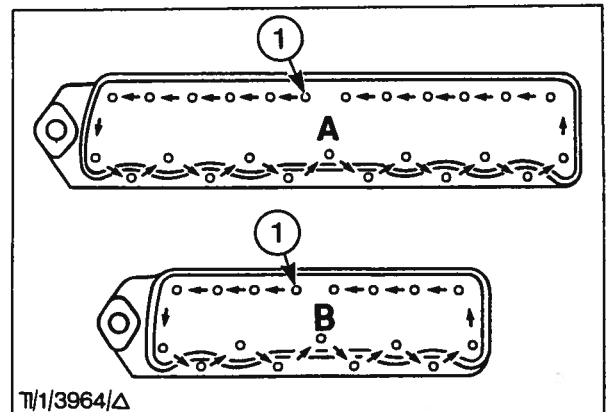

Fig. 75 - Cylinder Head Bolts Tightening Sequence
- 98. Tighten the cylinder head bolts by increments, in the sequence shown in Fig. 75 to the specified torque.